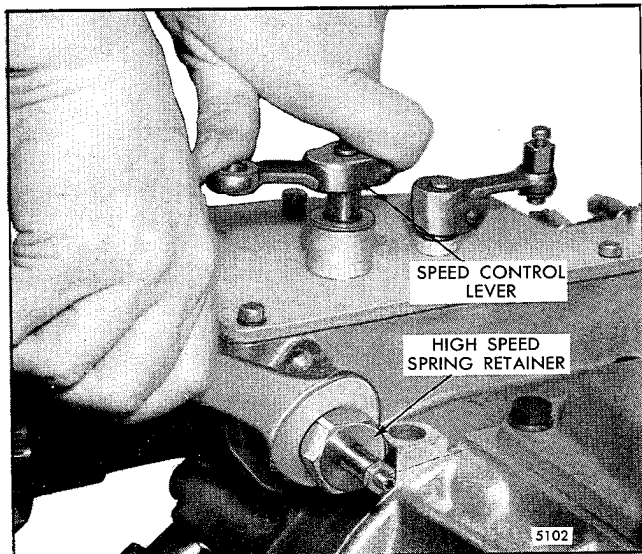

Fig. 7 - Adjusting Maximum No-Load Speed
1. Loosen the spring retainer lock nut (Fig. 7) and